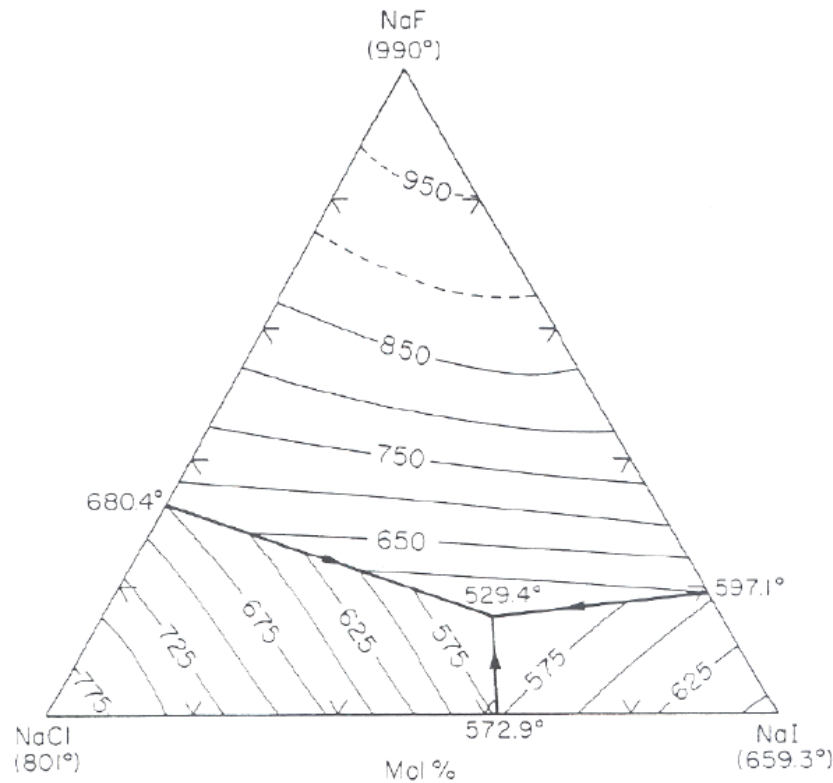

Figure 3.5: NaF-NaCl-NaI phase diagram. From ref. [1].
7) Calculate and plot the liquidus projection of the ternary phase diagram for the NaF-NaCl-NaI system. The melting temperatures and heats of fusion are as follows: NaF (990°C, 29,300 J/mol), NaCl (801°C, 30,200 J/mol) and NaI (659.3°C, 22,300 J/mol). Assume an ideal liquid solution and negligible solid solubility. Compare your result with the experimental diagram shown in Figure 3.5. Why might they be different?